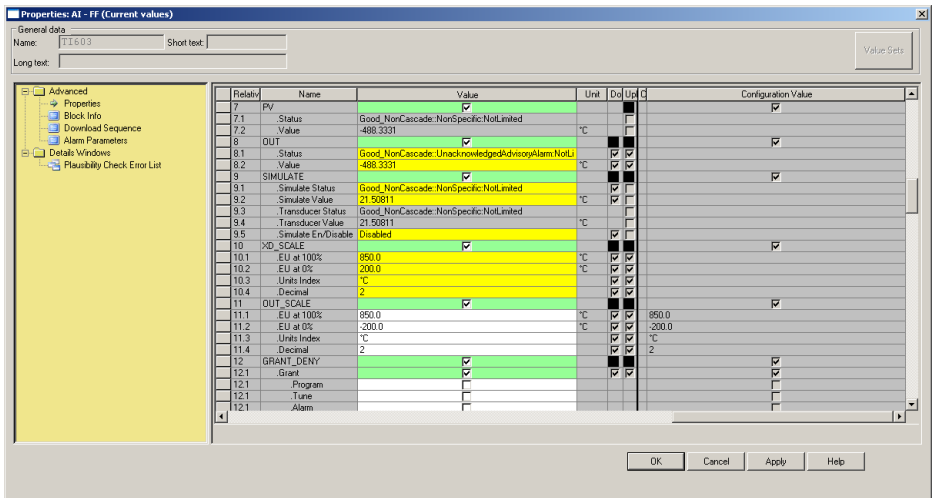

Figure 180. Online Parameters
- a. Open the Properties dialog of a function block by double clicking the block in the FF Application object or in the H1 device object (refer to Figure 180).